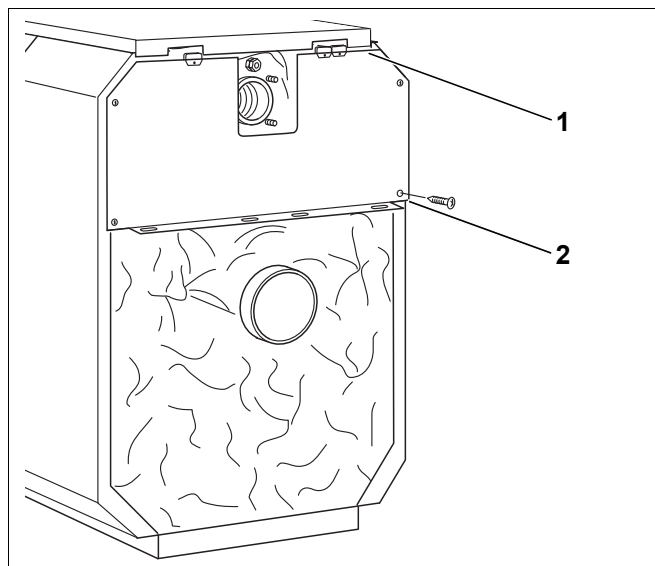

Fig. 55 Installing the upper rear boiler panel
- Push the upper rear boiler panel underneath the rear boiler cover (Fig. 55, [1]) and secure with four self-tapping screws from the rear on the side panels (Fig. 55, [2]).